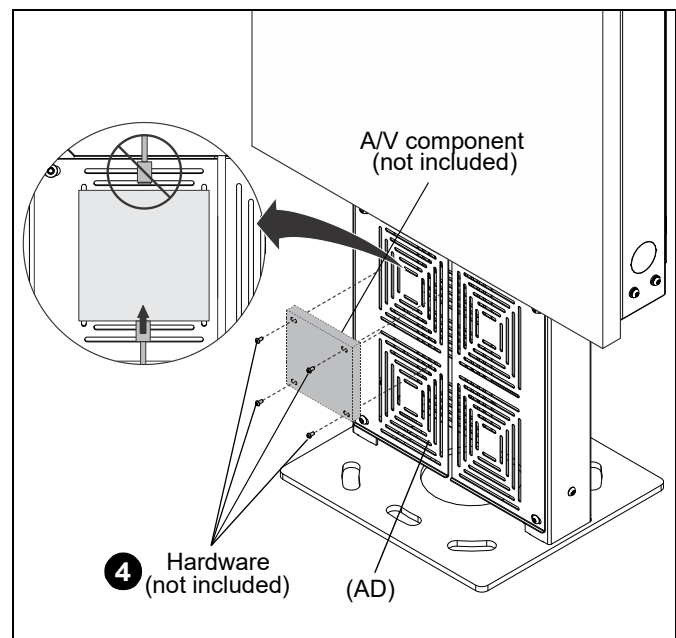

Figure 27
4. Install AV component(s) to the storage rack(s) (AD) using the hardware and instructions included with the component(s). Either screws or cable ties can be used to secure component(s) to the storage panels. (See Figure 27)